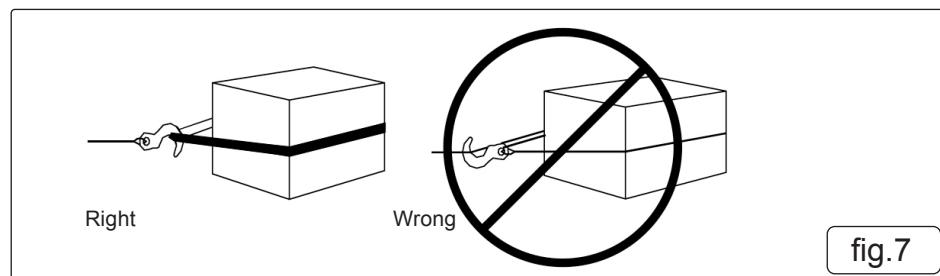

fig.7
- ❑ **WARNING!** Never rely on the handheld winch to hold a load in place. This handheld winch is not designed for load-holding applications and may unwind or fail due to shock-loading. Always secure the load using appropriate methods, and detach the handheld winch hook once the load is properly restrained. Take your time when rigging, and ensure that a reasonable safety factor is included in your setup. Improper rigging can damage equipment or vehicles and may result in serious injury. When anchoring the cable, always use a Tree Saver Strap or a similar device. Do not wrap the cable around an anchor point and hook it back onto itself, as this practice can weaken the cable and lead to failure. (See fig.7)